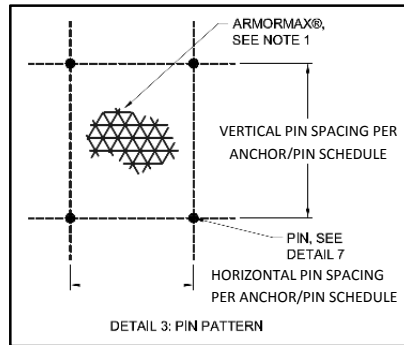

Figure 11: Example Pin Pattern
11. Secure ARMORMAX panels in place using pins and anchors across the channel surface according to the project's engineered design. Pin and anchor placement should reflect a staggered checkerboard pattern across the channel surface for best results (Figure 11 and Figure 12).